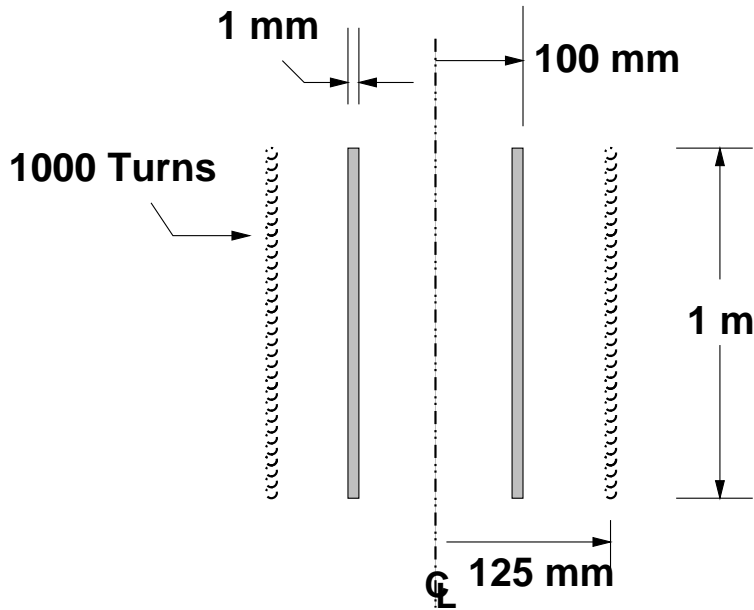
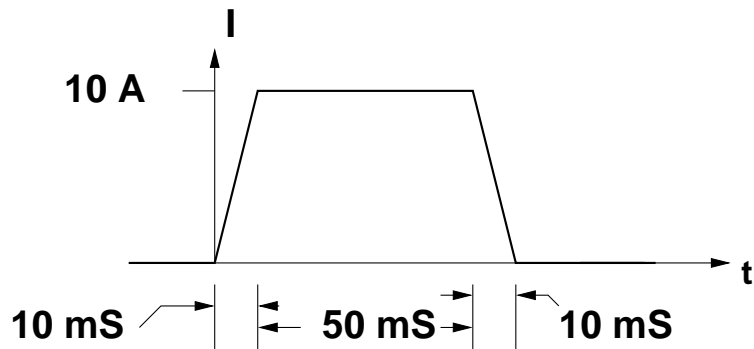

Figure 2: Coil for Problem 2
Figure 3: Current in coil for Problem 2
**Problem 2:** A conductive cylinder, with conductivity  $\sigma$  and thickness  $t$  is inserted into the coil of Problem 1 as shown in Figure 2. . Current in the coil is driven (by a mechanism not shown) to be as is shown in Figure 3. You should assume that the geometry is as idealized in Problem 1 and that you may ignore diffusion in the cylinder. (That is, assume that current is uniform over the thickness of the cylinder.) In addition, assume current in the shell to be azimuthal. Assume the coil is 1000 turns of wire 2 mm in diameter (#12 AWG) and that conductivity of the wire is  $5 \times 10^7 S/m$ . The diameter of the conductive cylinder is 200 mm and its thickness is 1 mm. It is made of the same sort of copper as the wire and so has the same conductivity. You will find it convenient to use some sort of mathematical assistant to do the work of doing the actual calculations and plotting the results. The solutions to be passed out will be done using MATLAB.